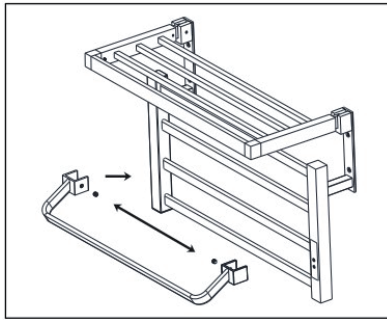

Figure 7
4. Loose the screws in the two sides of rack, and buckle it on the two columns of the heating part. And then tight the screws by the slotted screw driver. As show in figure 7.